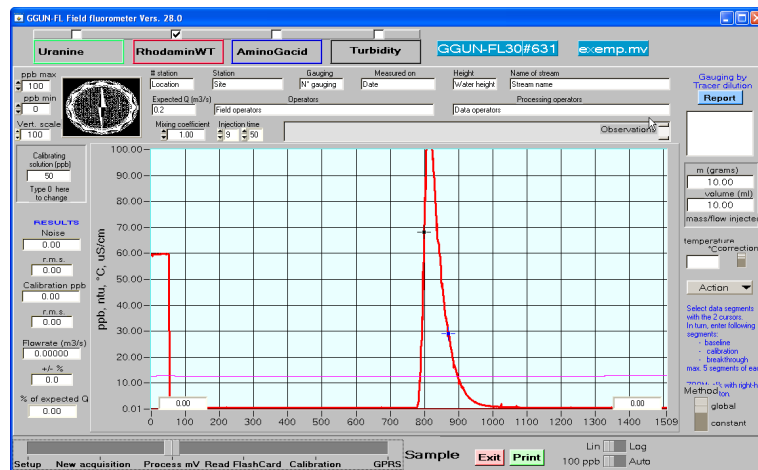

Figure 3: The "Process mV" menu when running the FLUO software in stream gauging mode.
4. Click the menu "Process mV" and read in the just created *.mv file. The FLUO software should show a window similar to the one shown in Figure 3.